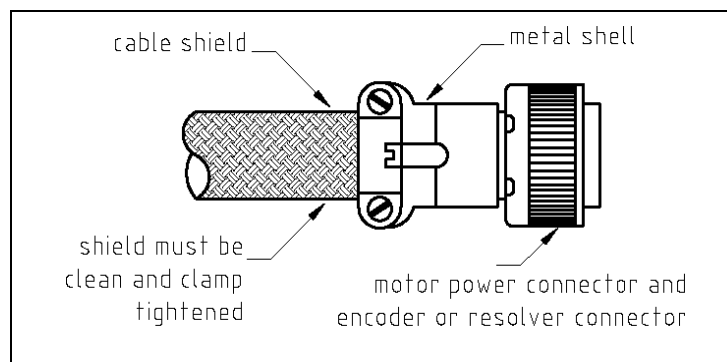

Fig. 3.1 – Grounding of shield to connectors at motor side
Signal - Encoder cable (see Fig. 3.1)
- Resolver cable (see Fig. 3.1)